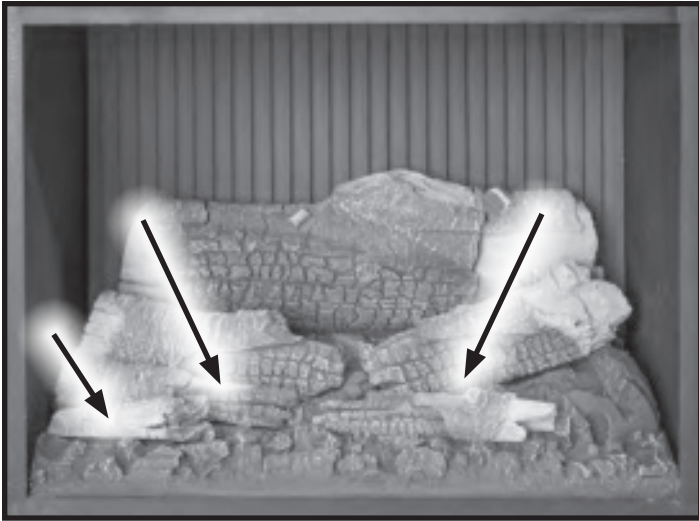

Figure 41. Front Ember Bed Logs.
5. Install the front three ember bed logs as shown in Figure 41. Note the locating notches on the backside of the logs. The depressions in the ember bed only allow the logs to be installed one way.